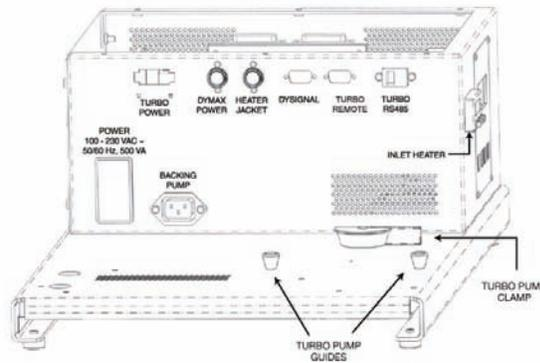

Figure 3-5.
2. Plug the power cable on the back of the electronics into the outlet labeled “Dymax Power” in Figure 3-5.
electronics and the connector labeled “Dymax I/O ” in Figure 3-5.